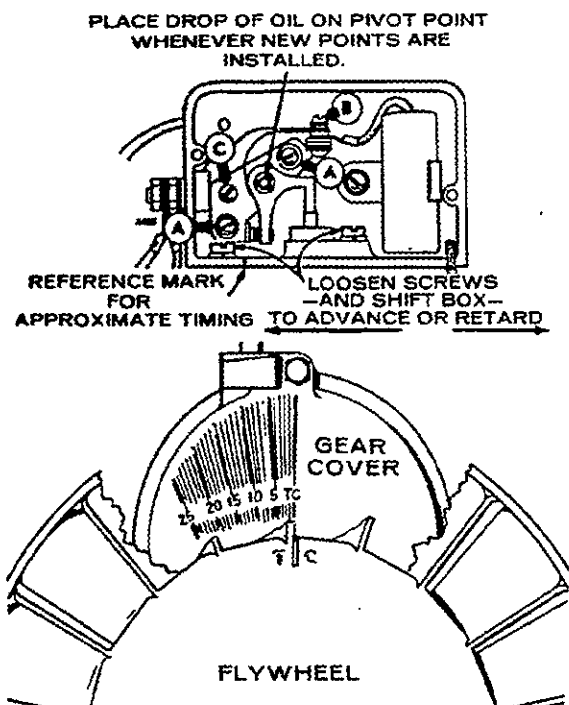

FIGURE 35. IGNITION TIMING
- 3 Remove the two mounting screws (A) and pull the points out of the box just far enough so screw (B) can be removed. See Figure 35. Replace points with a new set but do not completely tighten mounting screws (A).
- 4 Rotate the engine clockwise (facing flywheel) by hand until points are fully open. Turn screw (C) until point gap measures .020 inch (0.51 mm) with a flat thickness gauge.
Each time new breaker points are installed, place a drop of oil on the point's pivot point (Figure 35).